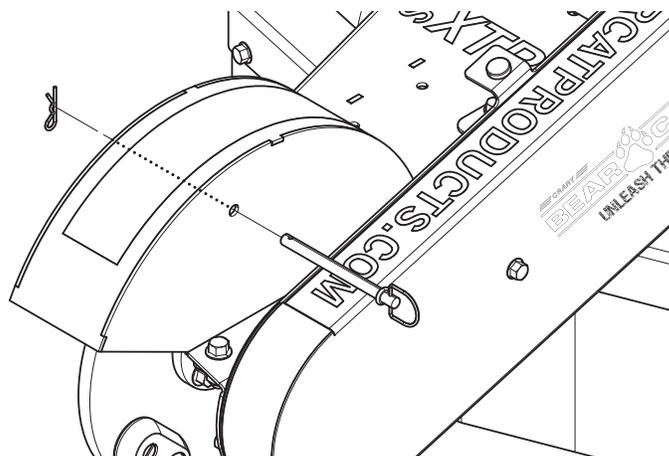

Figure 5.7.1
3. Install rotor lock pin that was included in the owner's kit (see Figure 5.7.1). The installed pockets will contact the rotor lock pin and stop the rotor from moving while loosening and tightening the pocket bolts.